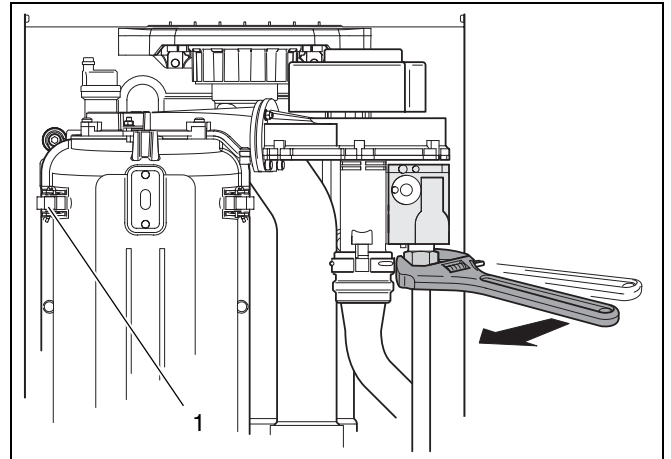

fig. 60 Loosen gas connection
- Loosen the gas connection between the gas supply and the gas air unit (fig. 60).
- Now the front cover of the heat exchanger can be removed by opening the latches (fig. 60, item 1).